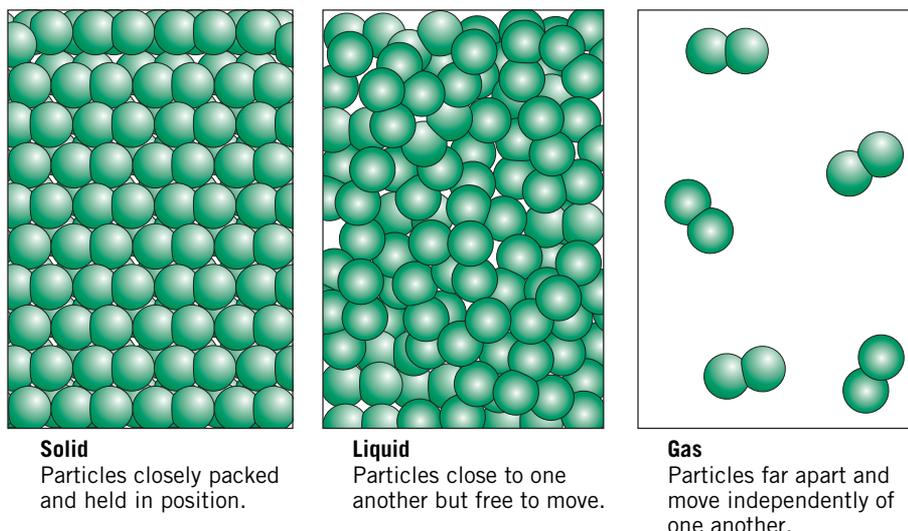

Figure 1.3 Arrangement of particles in solids, liquids and gases
A model for the arrangement of particles in solids, liquids and gases is illustrated in Figure 1.3.
- 1 **Outline** how the models of gases, liquids and solids presented in Figure 1.3 can account for each of the observed characteristics of these states of matter given in Table 1.1.